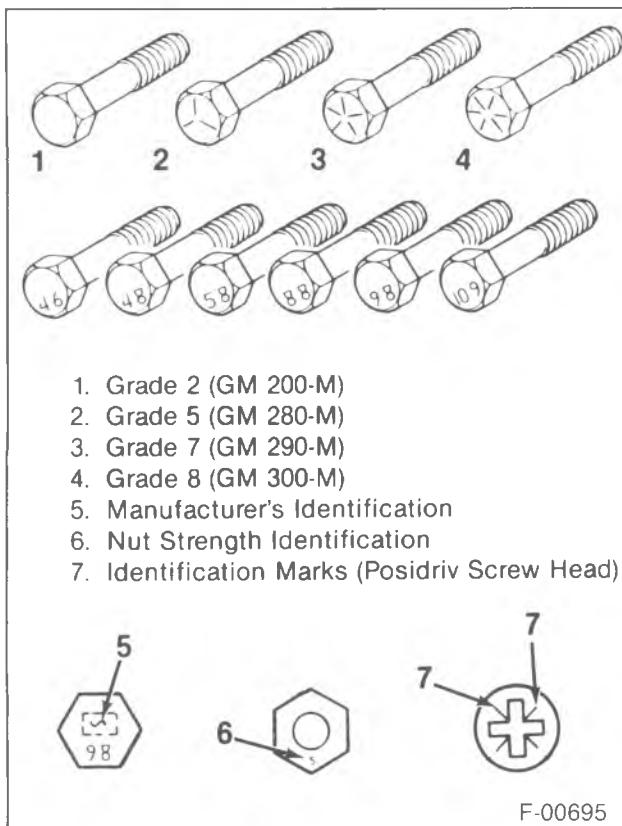

Figure 13—Bolt and Nut Identification
Original equipment metric fasteners (except "beauty" bolts, such as exposed bumper bolts, and cross recess head screws) are identified by a number marking indicating the strength of the material in the fastener as outlined later. Metric cross recess screws are identified by a Posidriv or Type 1A shown in figure 13. Either a Phillips head or Type 1A cross recess screwdriver can be used in Posidriv recess screw heads, but Type 1A cross recess screwdrivers will perform better.
- d. Observe that, before fastener seats, it develops torque per the chart in figure 13 (if there is any doubt, replace with a new prevailing torque fastener of equal or greater strength).